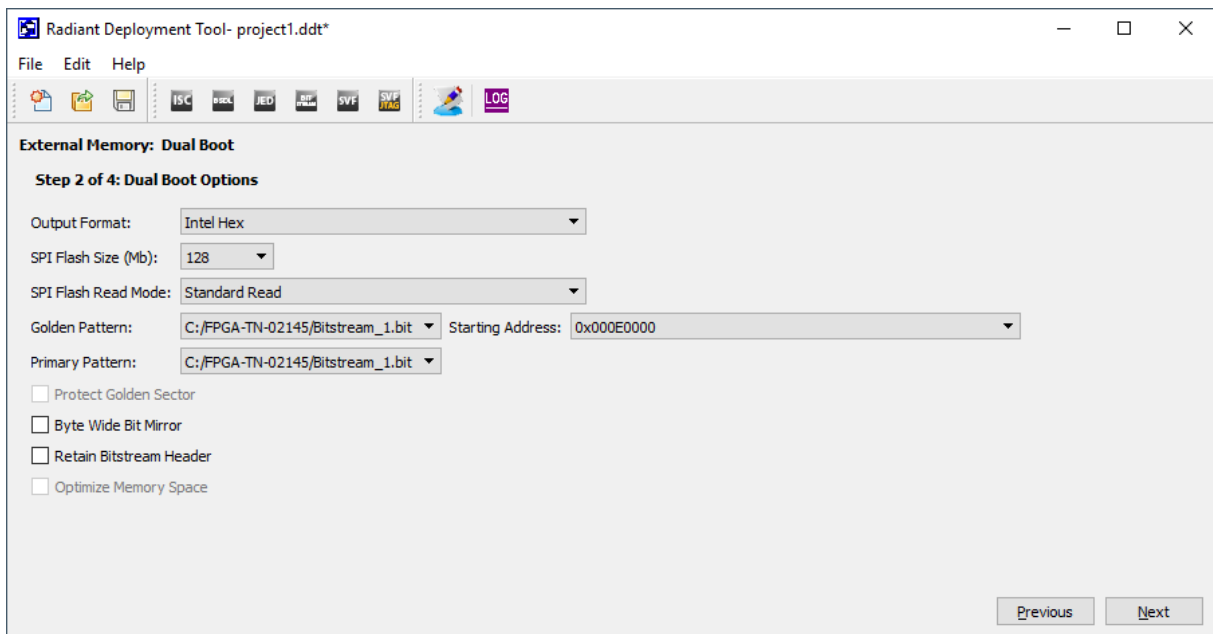

Figure 6.3. Dual Boot Options Window
Step 2 of 4: Dual Boot Options window (Figure 6.3)